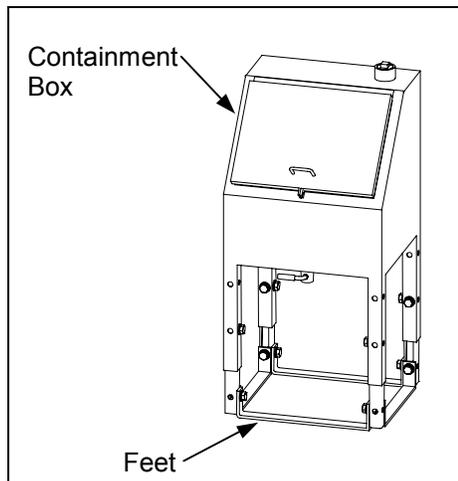

Figure 3
- Using the included hardware, bolt the feet to the bottom of the legs. (See Figure 3.)